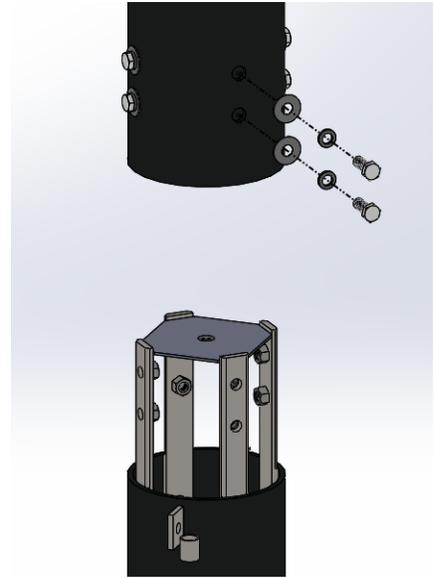

Figure 4
2. Install all (4) 1" bolts with Flat & Lock Washers, finger tight as pictured in Figure 4.